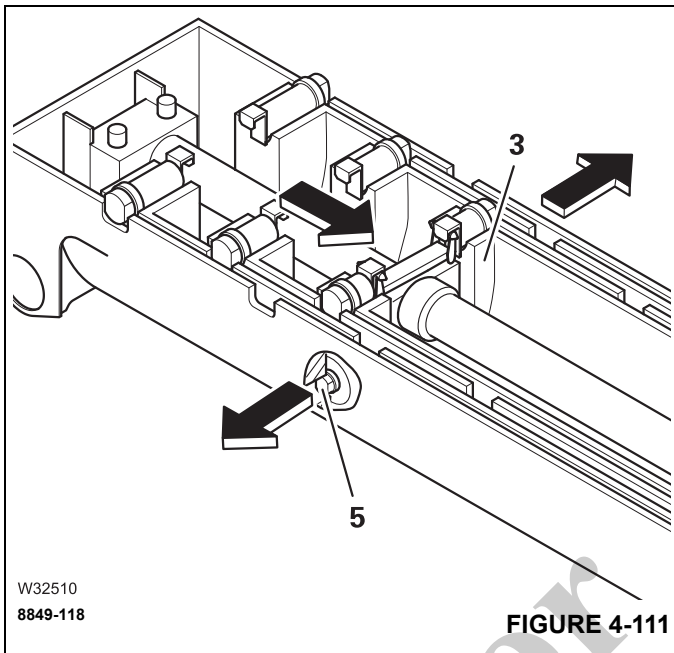

FIGURE 4-111
The telescoping cylinder moves into the section to be telescoped, e.g. telescopic section III (3), (Figure 4-111).